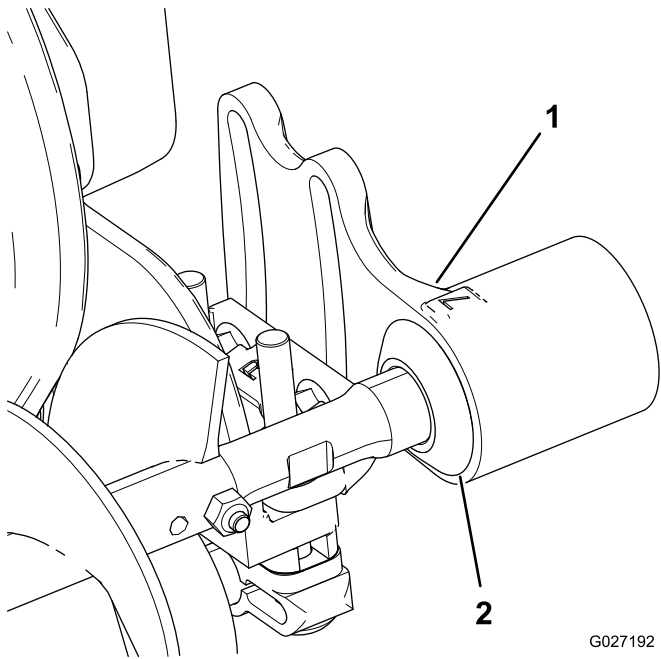

Figure 10
- Slide each excluder seal outward until the lip seals are in light contact with each bearing housing (Figure 10).